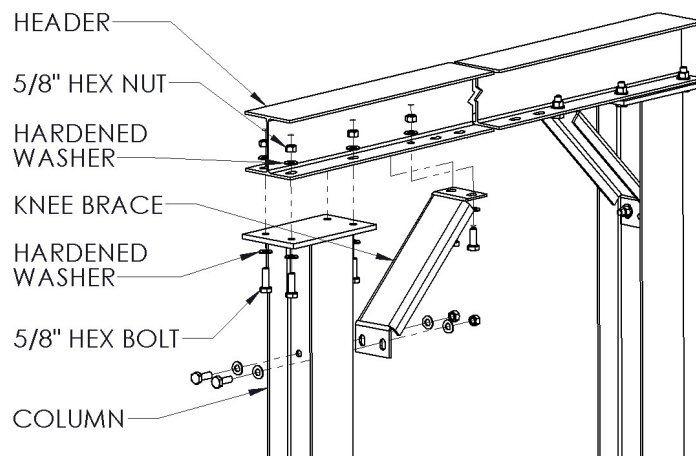

Figure 1: Header Assembly to Columns
6. Assemble the header to each column using 5/8" bolts, flat washers, heavy hex nuts. (See figure 1).